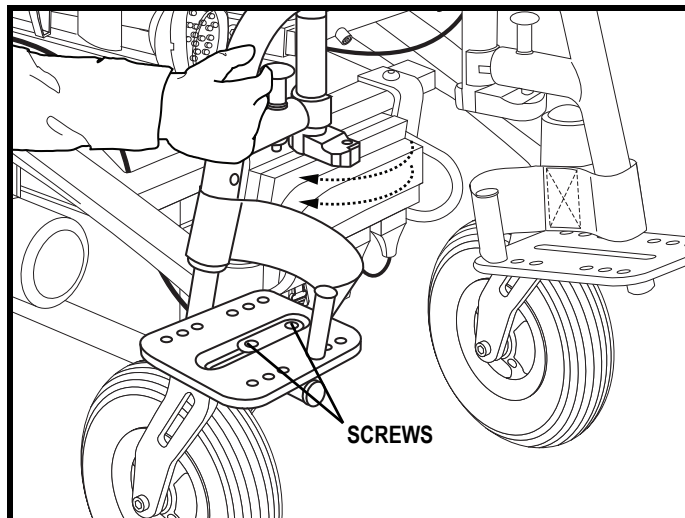

Figure 20. Swing-away Footrest Adjustment
1. Loosen the nuts on the two screws on the underside of the foot plate. See **figure 20**.